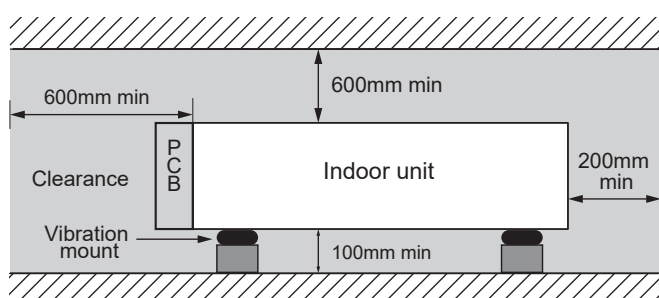
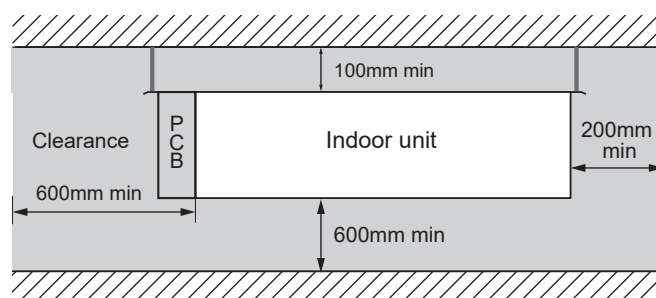

Figure 3.
Figure 4.
8.3 The space required for installation (unit: mm) is shown in Figure 3 and Figure 4 below.